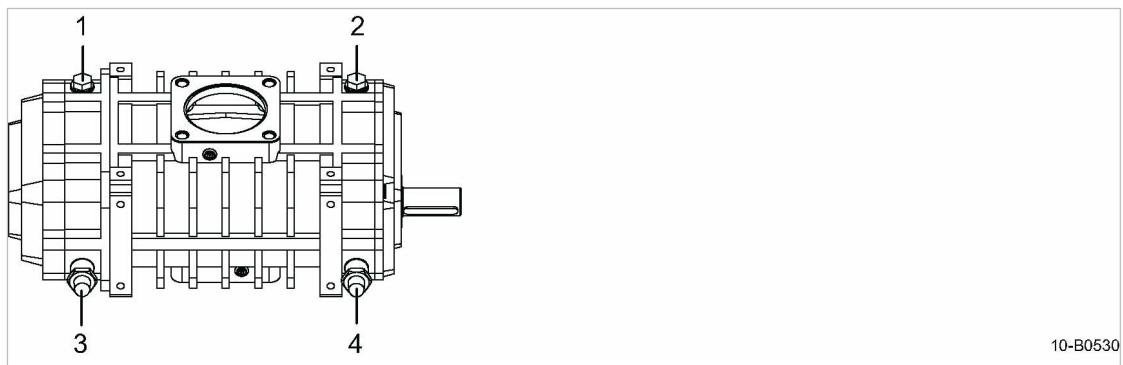

Fig. 32 Replenishing lubricating oil
2. Take out the oil filler plugs at the oil inlet of the blower block (1) and (2) (Fig. 32).
3. Take off the caps (1) and (2) and open the oil drain taps (3) and (4).
3. Close the oil drain taps ③ and ④.
4. Check the oil level in both sight glasses (Fig. 32) and top off as necessary.
5. Screw on the caps ① and ②.